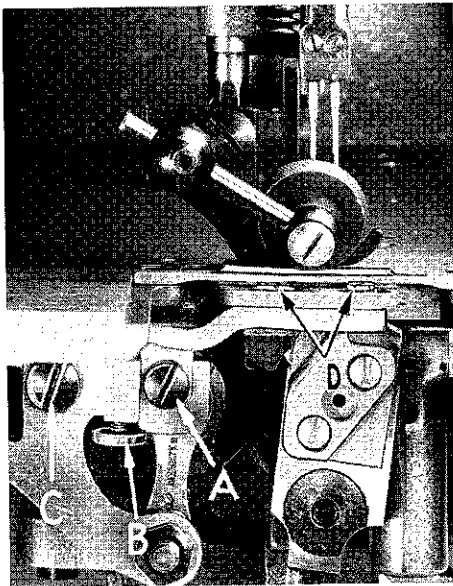

Fig. 6
To make these adjustments, loosen screw (A, Fig. 6) and turn regulating screw (B) clockwise to raise the feed dog and counterclockwise to lower it. Make sure that the bottom of the shank of the feed dog holder rests against the head of the regulating screw. The feed dog can be tilted up or down by loosening screws (A and C) and can be moved forward or backward in the throat plate by loosening screws (D).